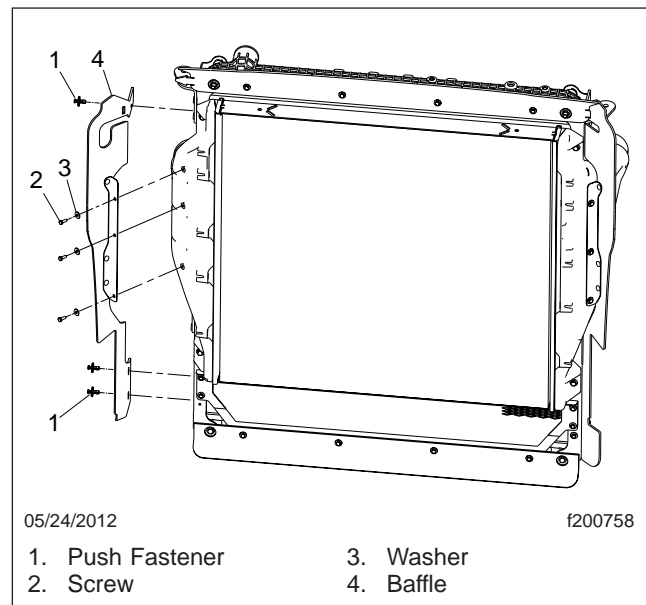

Fig. 3, Radiator Baffle, Right Side
- 13.2 Remove the radiator baffle from the right side of the radiator and discard it. See **Fig. 3**.